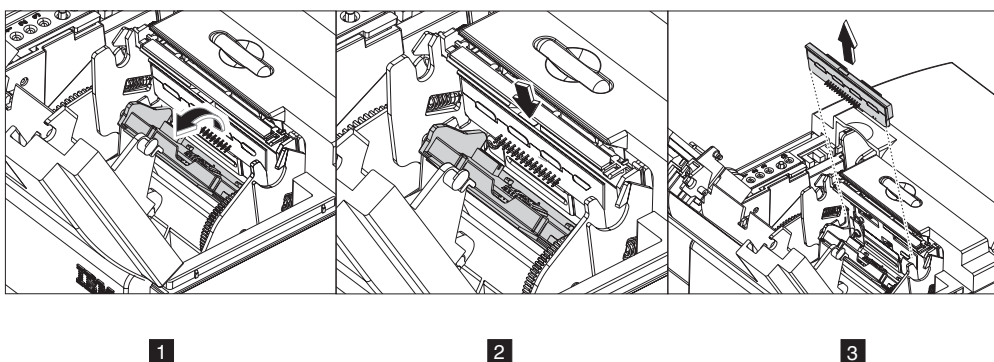

Figure 29. Replacing the thermal printhead assembly
2. Open the paper-out sensor by grasping the edge and pulling downward. See **1** in Figure 29.
3. Press downward on the thermal printhead assembly, as shown in **2** in Figure 29.
4. Lift the printhead assembly outward to remove (see **3** in Figure 29).